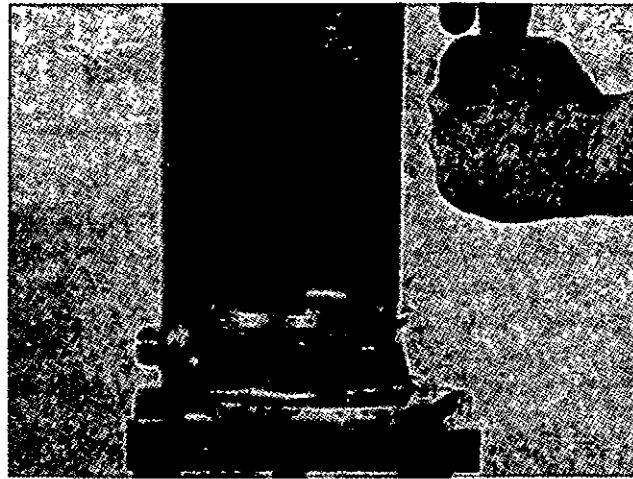

Fig. 3-4, (F5144). Press the drive shaft assembly from the front cover.
8. Replace the retainer capscrew of the drive coupling with a longer capscrew. Press on the capscrew to remove the drive shaft bearing and the shaft assembly from the front cover, Fig. 3-4. Remove the key from the shaft.